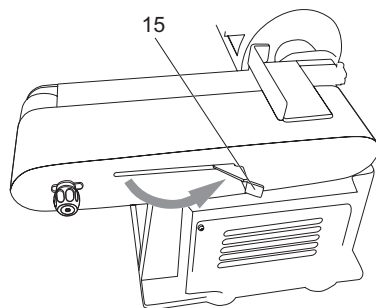

Fig. 30
- > Pull the tension lever (15) from left to right to release the belt tension. (Fig. 30)